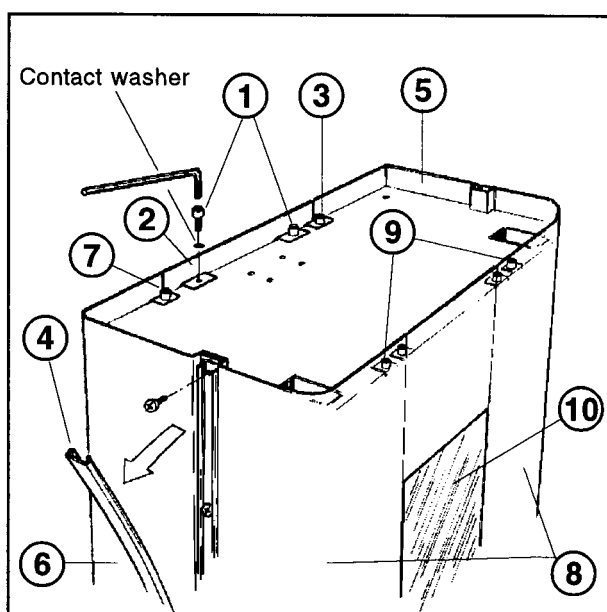

Fig. 1
- Remove the cover by lifting it up (2/Fig. 1).
Warning! The metal curtain (10/Fig. 1) is very sharp. Therefore, be extremely careful when removing/reassembling the front covers. After removing the front covers, fit the protective strips onto the edges of the metal curtain, see page 1-2.
- To remove the two front covers (8/Fig. 1), loosen the screws (9/Fig. 1) at the top of the stand and, if the side covers have not already been removed, also the screws behind the plastic strips (4/Fig. 1).